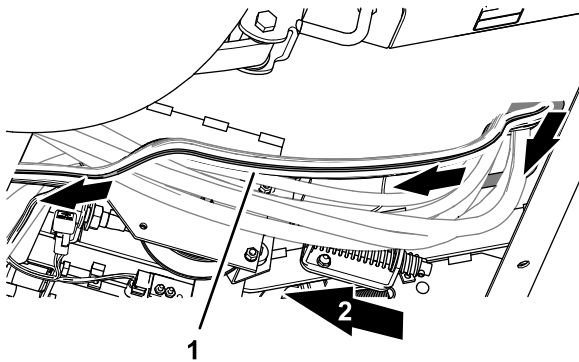

Figure 34
3. At the bottom of the machine, route the ISO-CAN bus harness along the wire harness of the machine (Figure 34).